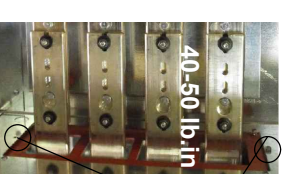

Figure 7
- c) from the hardware plastic bag, take the two (2) 10-32 screws, nuts & washers. Use them to connect together the 2 enclosures, with the red glastic (A in Fig 2) in between. (Fig.7)